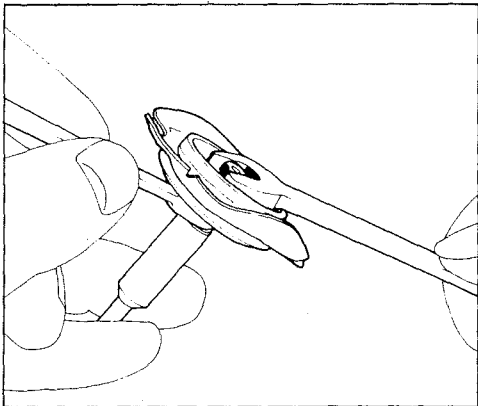

FIGURE 2-169
- (3) Assemble lockwasher and nut to rod. Engage 1/4" wrench to rod flats and tighten retaining nut. (Refer to figure 2-169). Torque retaining nut to value required in Torque Chart, Section XI.